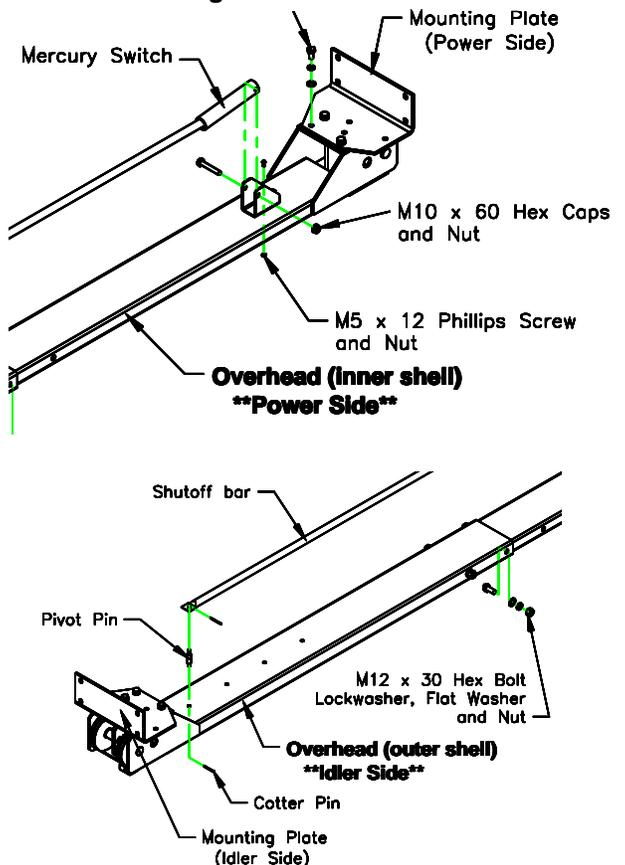

Fig 5 - Symmetric Overhead Assembly
- The Overhead is packaged in the Narrow setting. Remove the M12 hardware and re-assemble at the desired width. The M12 hardware must be assembled as shown to avoid interference with the synchronizing cables. Assemble the overhead shutoff bar, mercury switch, bracket and mounting plates as seen in **Fig 5**.
13) The Overhead is packaged in the Narrow setting. Remove the M12 hardware and re-assemble at the desired width. The M12 hardware must be assembled as shown to avoid interference with the synchronizing cables. Assemble the overhead shutoff bar, mercury switch, bracket and mounting brackets as seen in Figs 5 & 6.